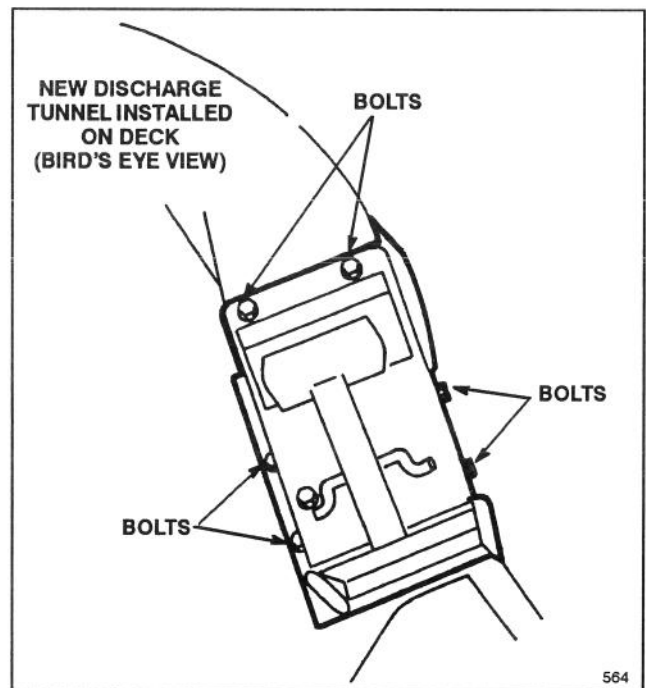
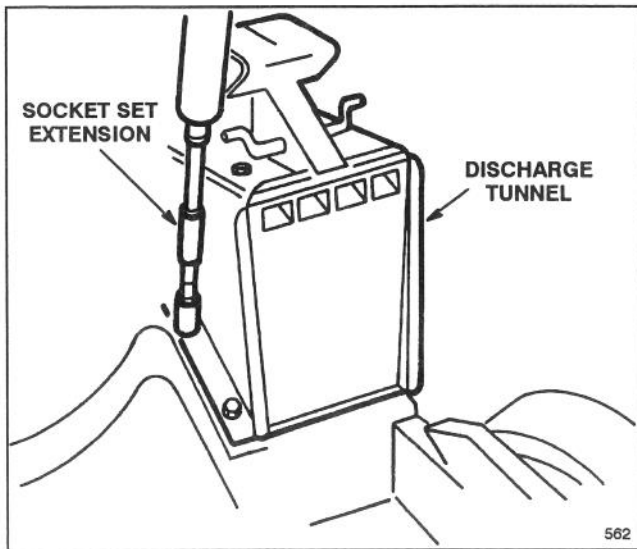

Figure 2
Figure 3
3. Position discharge tunnel and door assembly on deck. Align holes in discharge tunnel with holes in deck (Fig. 2).
4. Secure the new discharge tunnel to deck using (6) bolts removed from the cover–deflector assembly (Fig. 2). A socket set extension may be necessary to secure the front–left bolt (Fig. 3).